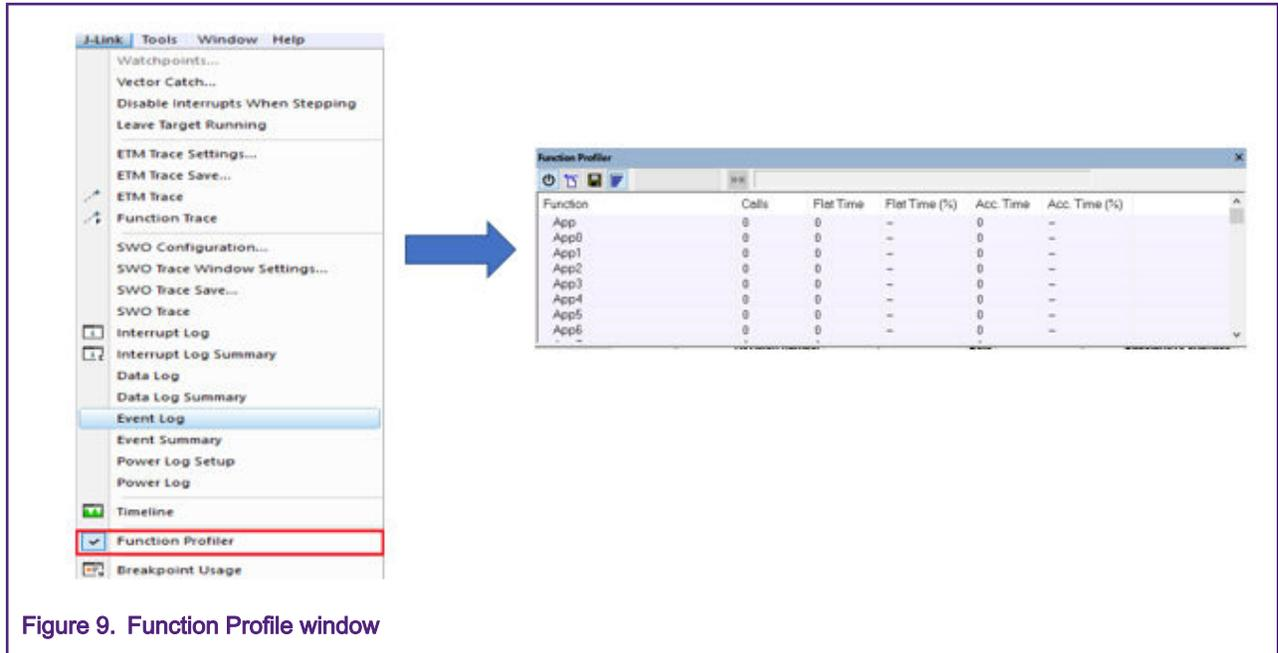

Figure 9. Function Profile window
2. Click **Function Profiler** to open the **Function Profiler** window. Figure 9 shows how to open the **J-link** window and **Function Profile** window.